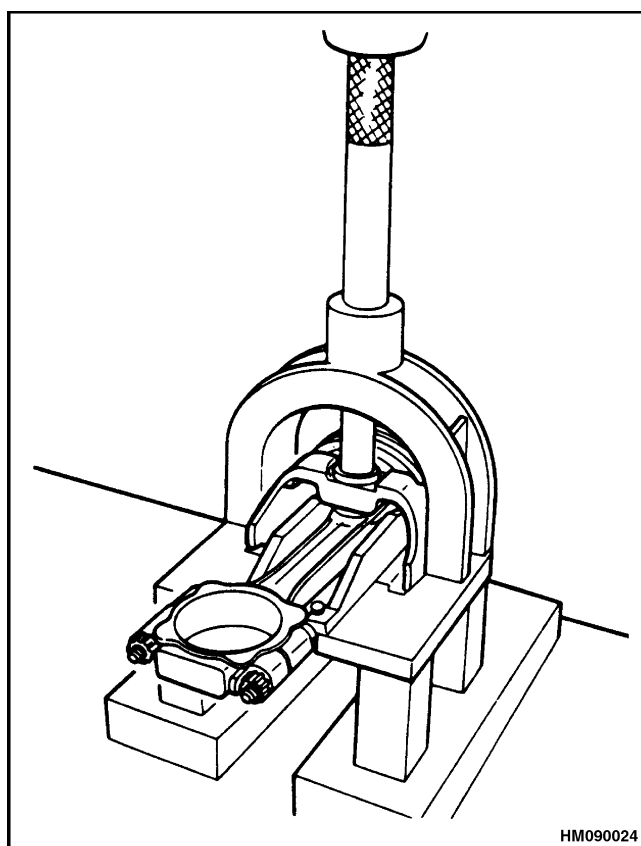

Figure 43. Wrist Pin Removal
1. Remove the piston rings from the pistons. Use a press to remove the wrist pins from the pistons. See Figure 43.